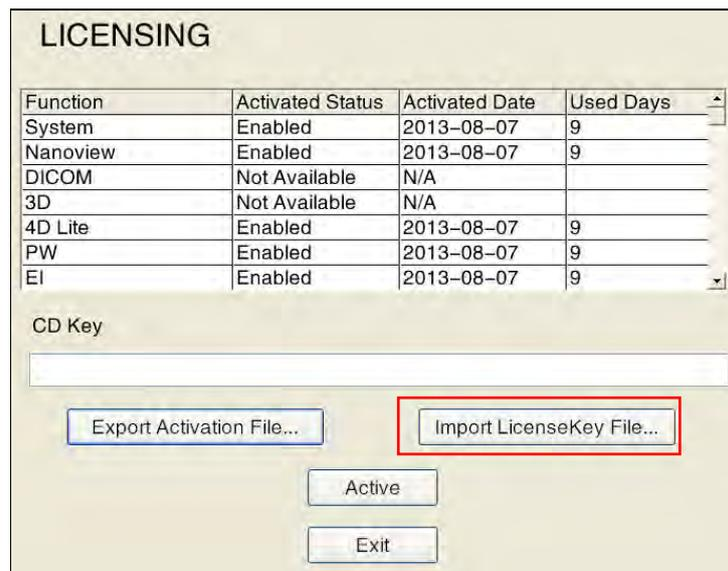

Fig. H-5 Licencing screen
- 2) Select **Licensing** and then **Import LicenceKey File...** to import the licence key data received from Zimmer MedizinSysteme and to activate the DICOM function (for detailed instructions on activating the DICOM function, see section 5.2.1 of the operating instructions). The licencing screen is shown in Fig. H-5.